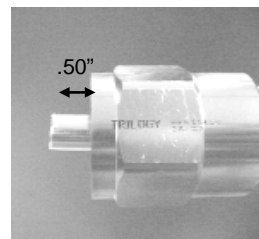

Figure 7
- 5) **Slide** back-nut of connector onto prepared cable end. Center conductor will protrude at least .50" (Figure 7). **Slide** front-nut onto center conductor and **hand-tighten** connector by **turning** the back-nut.